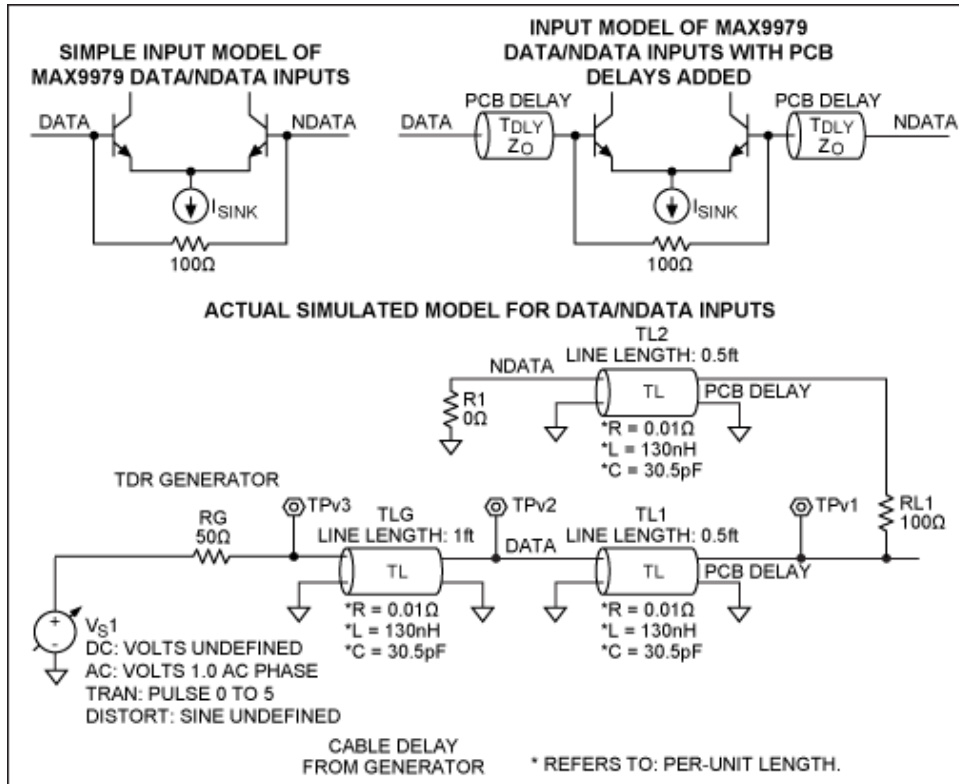

Figure 4. Equivalent input schematic and final simulated model.
Because TDR responses can be confusing, we will first model the input delays using a SPICE simulator. Then we will compare this simulation to the real measurements taken. See **Figure 4**.
Note from Figure 4:
- The second cursor shows 97.8Ω , and this is the impedance of the MAX9979's internal 100Ω resistor across DATA1/NDATA1 (see Figure 4). We also expect this.
- Ground the NDATA1 SMA connector with an SMA ground. This is depicted in Figure 4. The length of the 12in SMA cable is irrelevant to the propagation delay measurement, but should be as short as possible.